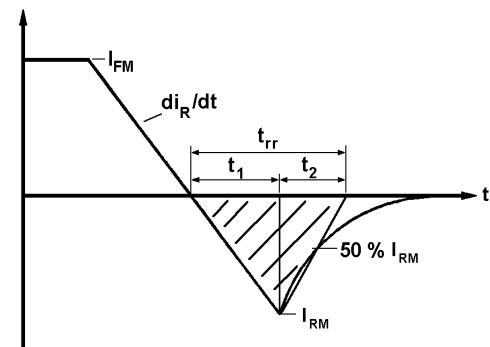

Fig. 1
- (i)  $Q_{rr}$  is based on 50%  $I_{RM}$  chord as shown in Fig. 1